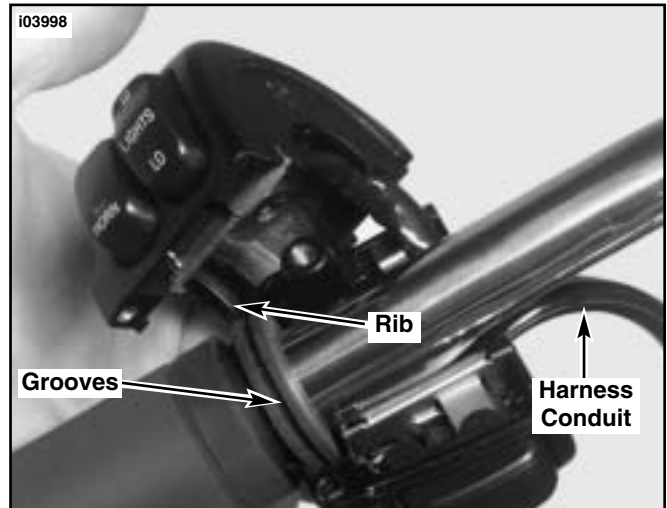

Figure 8. Installing Left Handlebar Switch Housing
36. See Service Parts Illustration. Obtain the new Left Handlebar Control with Harness (3) from kit.
37. See Figure 8. Position the left switch control upper and lower housings onto the handlebar. Be sure that rib on outboard side of switch housings fits in groove molded into the grip.